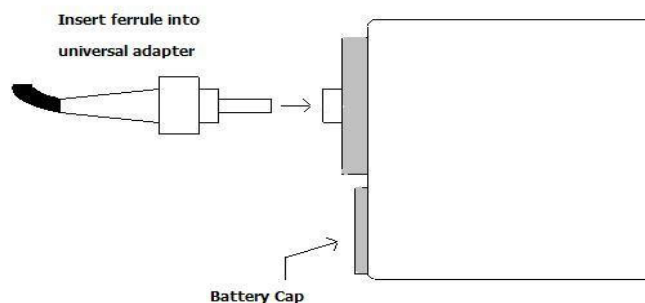

Figure 3
- 1, Begin by loading the polished connector into the adapter .If you have purchased our Universal Adapter ,simply slide the connector ferrule(2.5mm)into the hole until you feel it hit a stop (see figure3).it may require a little pressure to get it started as our Universal adapter is equipped with a no-slip gripping mechanism.it is important to slide the connector ferrule all the way to the stop.This will minimize any refocusing that needs to be done when changing from one connector to the next .if you have purchased one of the dedicated adapters,insert the connector just as you would into a patch bay or mated connector.